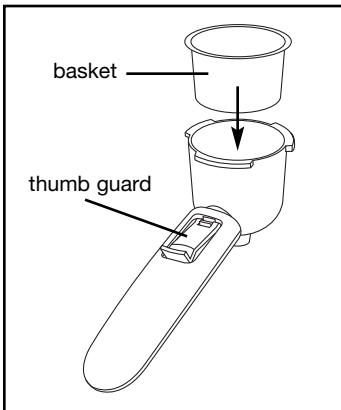
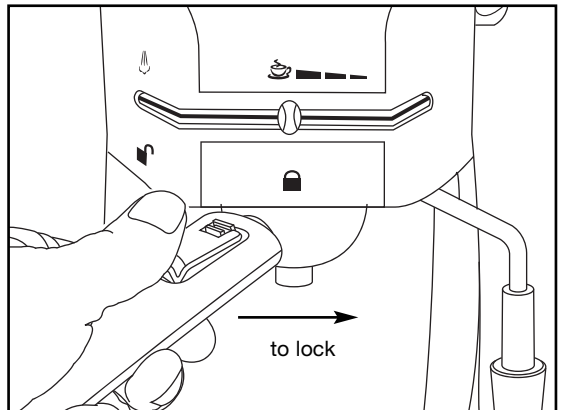

Fig. 2
Fig. 3
Caution: Do not immerse the machine in water or any other liquid. The boiler cap is not dishwasher safe. Make yourself familiar with the various parts: insert the basket into the filter holder (fig. 2) and insert the filter holder into the machine (fig. 3). Open and close the boiler cap. Make sure the power cord is guided in the back slot so the machine sits firmly and flat on an even surface.
3. Insert the basket into the filter holder (fig. 2), then insert the filter holder into the machine (fig. 3).